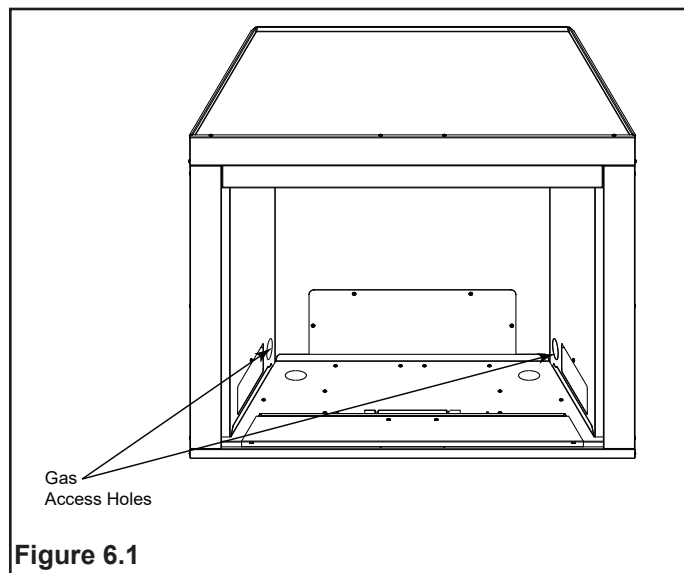

Figure 6.1
- The gas line may enter from the left side or right side of the firebox. Gas knockouts are provided on both side of the firebox. See Figure 6.1.